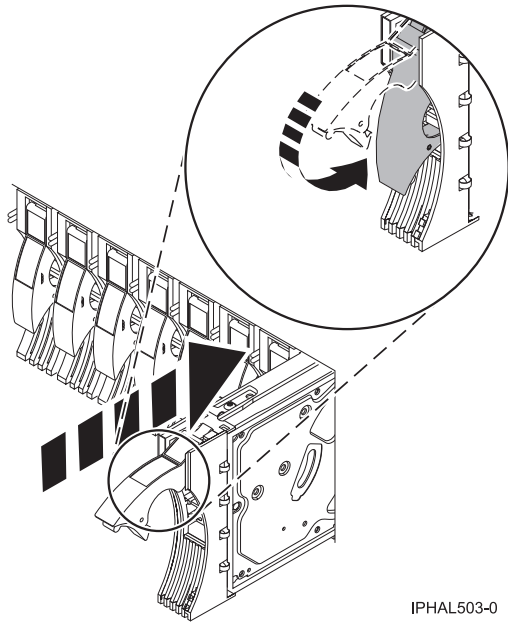

Figure 77. Installing a disk drive in a model or 7311-D20
10. Slide the disk drive all the way into the system or expansion unit and then lock it in place by pushing in the disk drive handle, as shown in Figure 77.